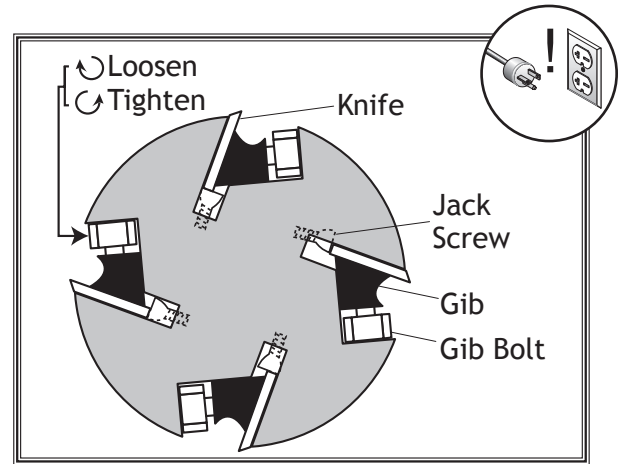

Figure 32. Cutterhead profile diagram.
5. Loosen cutterhead gib bolts (see **Figure 32**), starting in the middle, and alternating back and forth until all gib bolts are loose, but not falling out.